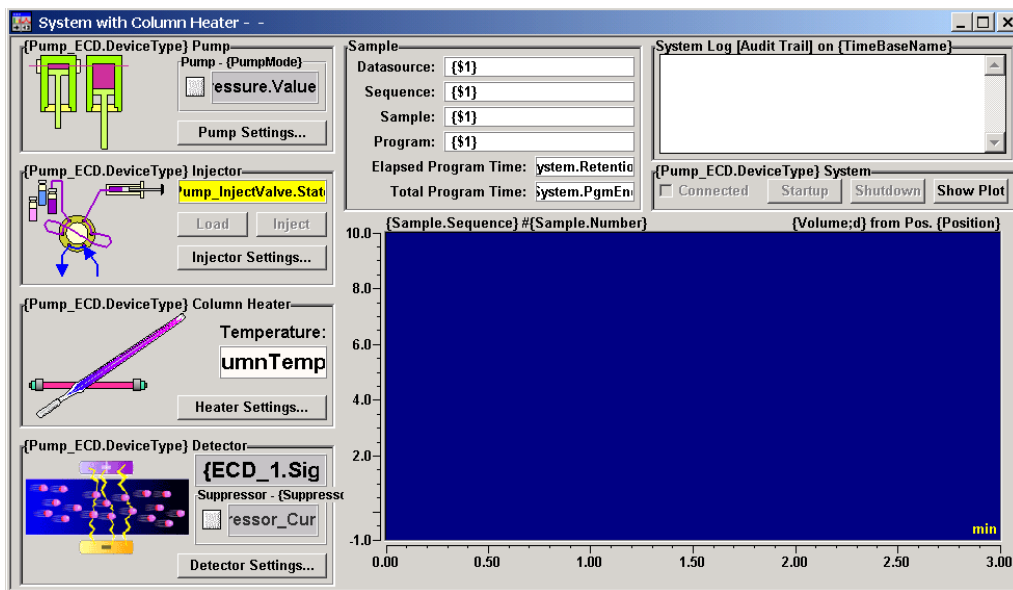

Figure 3-5. ICS-1500 System Control Panel (Unconnected)
5. The Control panel opens, unconnected (see Figure 3-5). To connect to the timebase, open the **Control** menu and click the name of the ICS-1500 timebase in the list at the bottom of the menu.